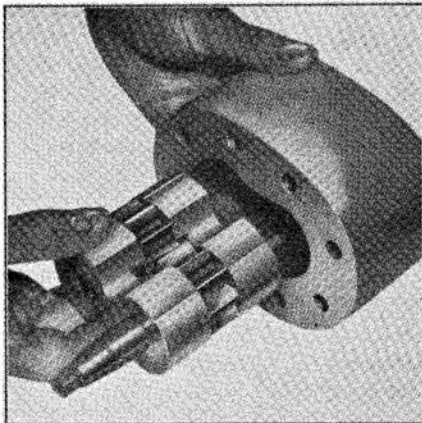
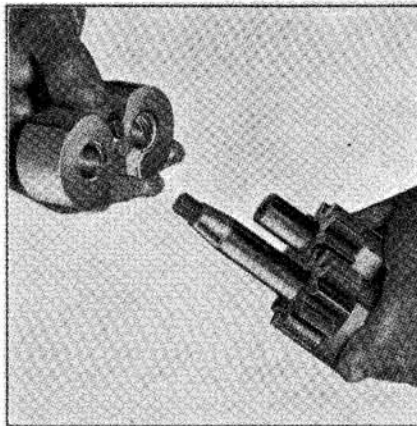

Fig. 217—Remove and install the pump gears and bearings as an assembly as shown.
Fig. 218—Assembling rear bearing to pump gear shafts. On later pumps, both bearings are alike.
275. **OVERHAUL PUMP.** With the hydraulic pump removed as outlined in paragraph 274, proceed as follows: Straighten the lock tab washer (2—Fig. 216) and remove nut (1), washer and pump gear (3) and extract Woodruff key (11) from shaft. Note: Use of a special gear remover (Nuday tool No. N-6306-B) is recommended to prevent damage to pump cover or other parts when removing gear. Remove the nuts, washers and bolts retaining the pump end covers. Note that the two bolts in line with the bolt holes for pressure line are machined dowel bolts and are identified by a "D" on the bolt head. Remove the covers and discard the sealing "O" type rings (8 and 15). Remove snap ring (4), seal (5) and washer (6) from shaft bore in rear cover (7). Remove the pump gears and bearing blocks as an assembly as shown in Fig. 217, then separate the gears and blocks.
To reassemble the pump, refer to Fig. 216 and lay out the component parts as shown. Note: Late type bearing blocks do not have the "run-out slots". Refer also to Fig. 218. Set the pump gears in the rear bearing, then invert front bearing over gear shafts. Be sure the intake side of both bearing blocks (sides with oil slot into bearing bore) are to the same side of the assembly. Insert the assembled bearing blocks and gears into pump body as shown in Fig. 217; refer to Fig. 216 for view of rear face of pump body.